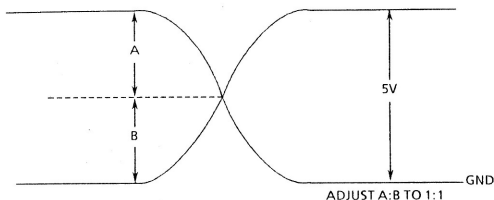

Fig. 9.6 Track 00 Waveform
- (2) Step between specified tracks at in the FLAG 0 item of Table 8.1 (Turn the seek delay switch on the exerciser to adjust 12 ms seek.)
- (3) Loosen the track 0 sensor screw and adjust until the waveform on the oscilloscope appears as shown in Fig. 9.6.